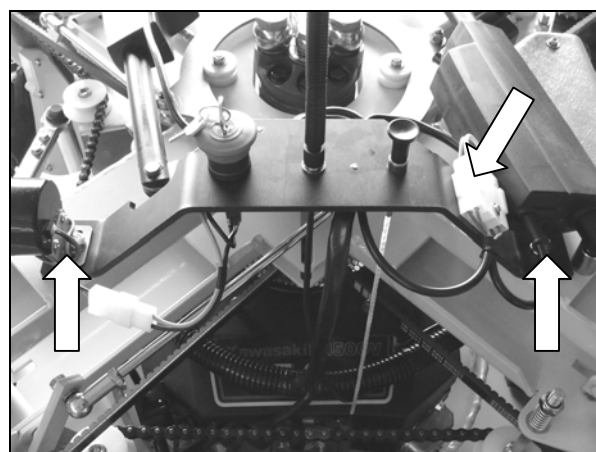

Fig. 34
- Disconnect the controls bracket from the support and disconnect the DC electric motor (Fig. 34)